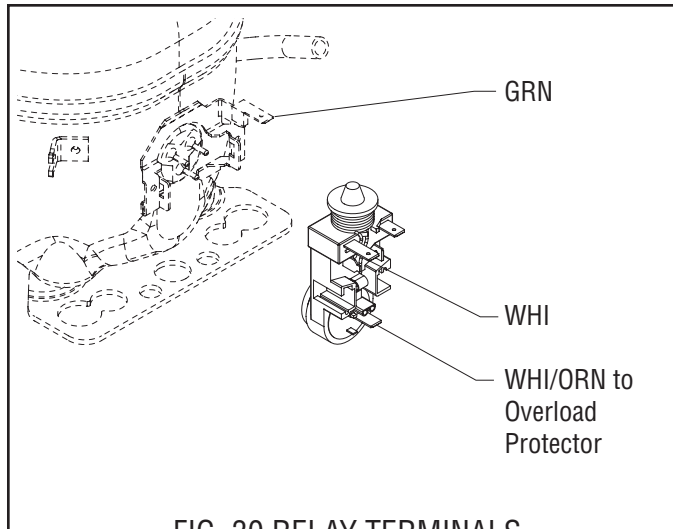

FIG. 30 RELAY TERMINALS
Compressor Start Relay: Refer to FIG. 30
1. Remove the terminal cover (4).
3. Pull relay (1) off of the compressor pins and discard.
5. Refer to Fig. 30 and reconnect the wires.
6. Reinstall terminal cover (4).